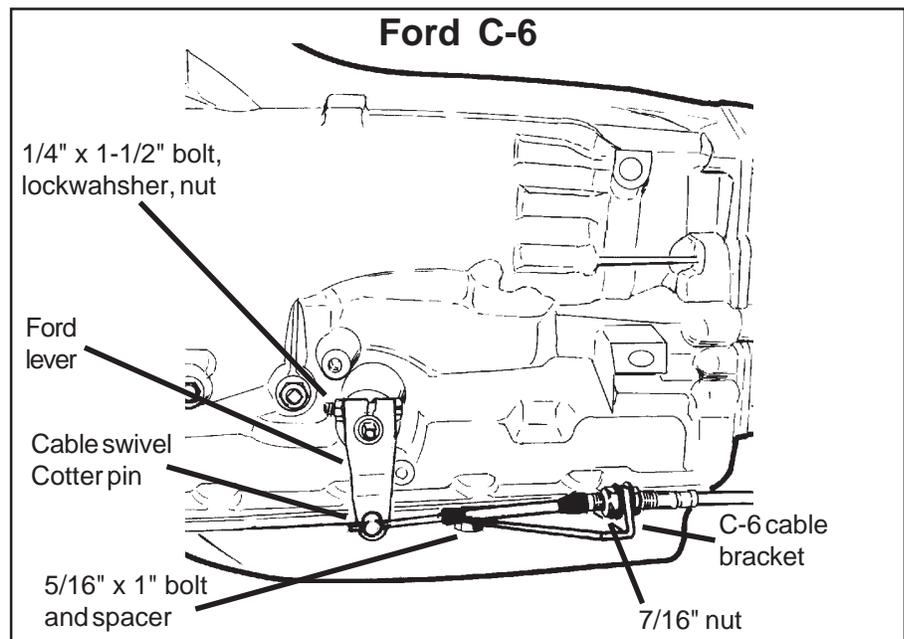

Figure 7
**C-6:** Remove the two transmission oil pan bolts from the left rear corner of the oil pan. Install the cable bracket in position (See Figure 7) with two spacers between the pan and the bracket. (If your transmission is equipped with a cast aluminum oil pan, these spacers can be omitted.) Install the two 5/16-18 x 1.00"